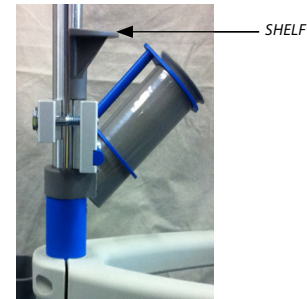

Figure 2
2. Clamp the **EXERGEN TAT-5000** holder below the **SHELF** as shown in **Figure 2** and tighten (instructions provided by the manufacturer).